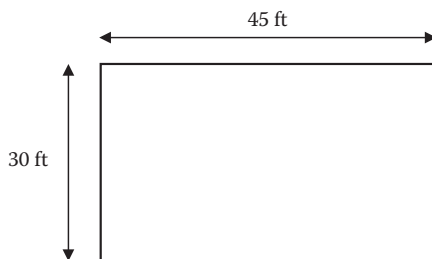

FIGURE 11.1 Illustration for Example 11.1.
- If a diagram is provided, refer to it. If there isn't one, draw a rough one to refer to (see Figure 11.1 for an example).
Problem: A water storage basin is 30 ft in length and 45 ft in width. What is the area of the basin in square feet? (Refer to Figure 11.1.)